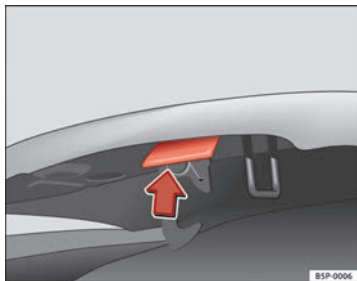

Fig. 165 Release catch under the bonnet
- Press the release catch under the bonnet upwards ⇒ fig. 165. This will release the arrester hook under the bonnet.